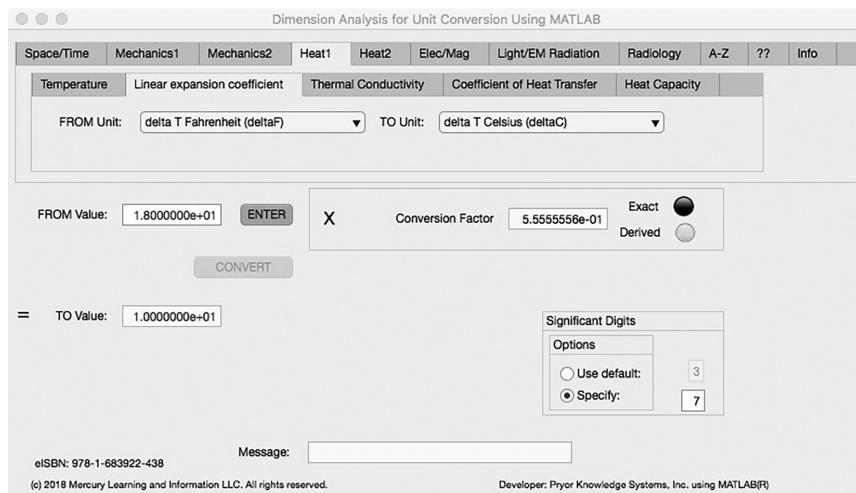

FIGURE 3.4-2 Unit Converter Using MATLAB App - Heat1 Linear Expansion coefficient Tab.
The second Minor Tab under the Heat1 Major Tab is the Linear Expansion coefficient Tab (see Figure 3.4-2). This example demonstrates the conversion of reciprocal Fahrenheit ($^{\circ}\text{F}$) to reciprocal Celsius ($^{\circ}\text{C}$). In this example, the amplitude of Fahrenheit ($^{\circ}\text{F}$) is set equal to eighteen (18). The conversion equation is shown in Example 3.4-2.